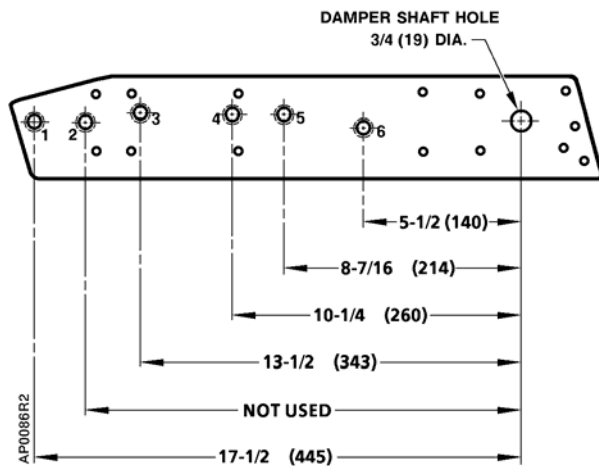

Figure 5. Actuator Mounting Plate 331-623. Dimensions in Inches (Millimeters).
2. Slip the 3/4-inch (19 mm) diameter hole in the mounting plate over the damper shaft (Figure 5).